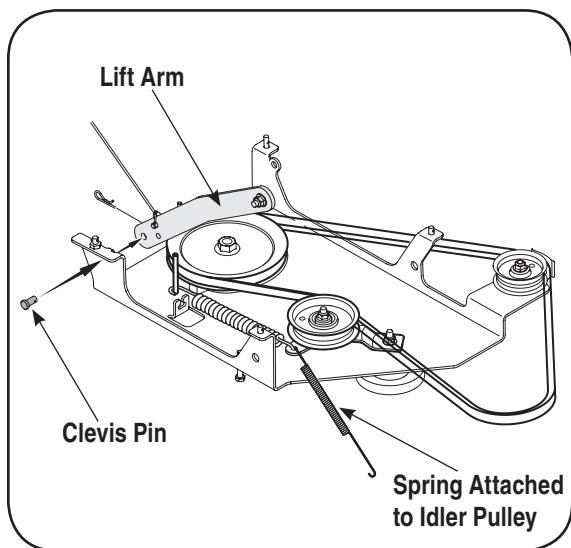

Figure 14
4. Align the holes in the rear of the lift arms with the holes in the rear of the undercarriage and insert the clevis pins removed in step 1. Fasten with the hairpin clips. See Figure 14.
NOTE: The other end of the spring is attached to the idler pulley. For an example of where this spring should attach, see Figure 14.